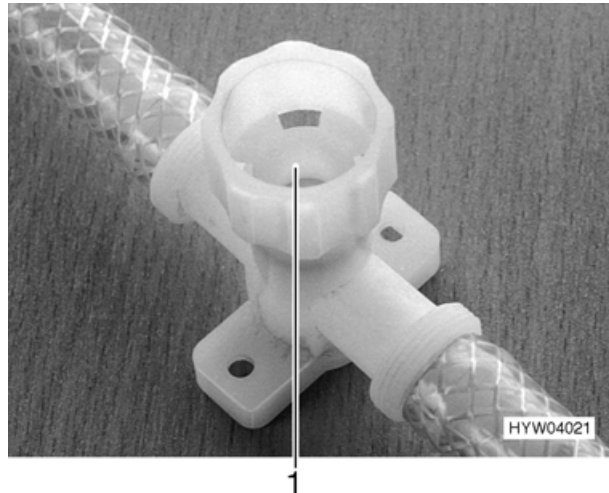

Fig. 75 Drain cock
- Turn the drain cocks on the cap (Fig. 75,1) in a clockwise direction.